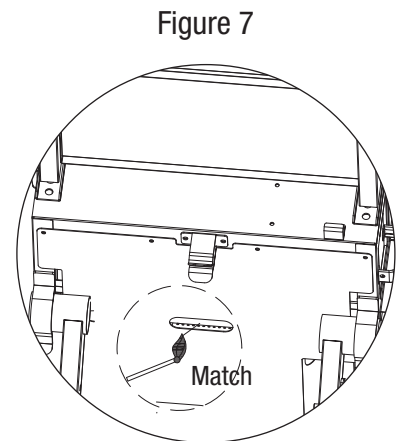

Figure 7
1. Access the burner through the hole in bottom bowl or side as indicated (Figure 7).